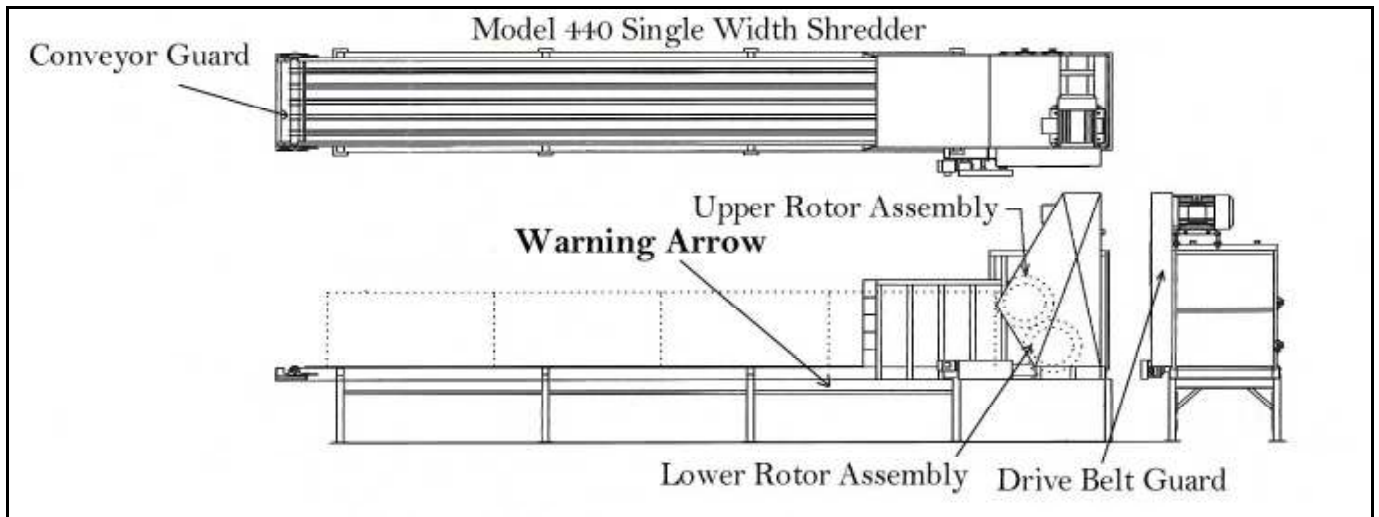

Figure 1 - Warning Arrow and Rotor Assembly Locations
All SHR model shredders have shredder blades and blade guards on both the upper and lower rotor assemblies (Figure 1). Due to excessive wear and the high rotational speeds of the shredder, all blades and blade guards must receive regular scheduled service and maintenance. On a regular maintenance cycle blades and blade guards must be rotated or replaced.
- Do not attempt to cut and remove twine from bales after the warning arrow located 12 feet ahead of the rotor assemblies (Figure 1). **WARNING** **DOING SO COULD RESULT IN SEVERE INJURY OR DEATH!**
1. **WARNING** DO NOT REMOVE THE CONVEYOR SAFETY GUARD (Figure 1) FROM THE FEED END OF THE SHREDDER'S CHAIN CONVEYOR (Re: OSHA CFR 1910.212 - Machine Guarding). **REMOVING THE GUARD PLACES PERSONNEL AT RISK FOR SEVERE INJURY OR DEATH.**
1. **WARNING** DO NOT REMOVE THE DRIVE BELT SAFETY GUARD (Figure 1) OR LEAVE IT IN AN OPEN POSITION WHILE OPERATING THE SHREDDER (Re: OSHA CFR 1910.212 - Machine Guarding). **REMOVING OR LEAVING THE GUARD OPEN, PLACES PERSONNEL AT RISK FOR SEVERE INJURY OR DEATH!**